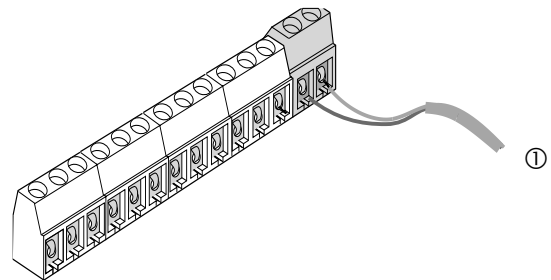

Figure 8. Connecting panel power to the receiver
2. Wire receiver terminals (GND) and (+12V) to a non-switched 12V supply output on the control panel. Make sure you observe the correct polarity (see Figure 8).